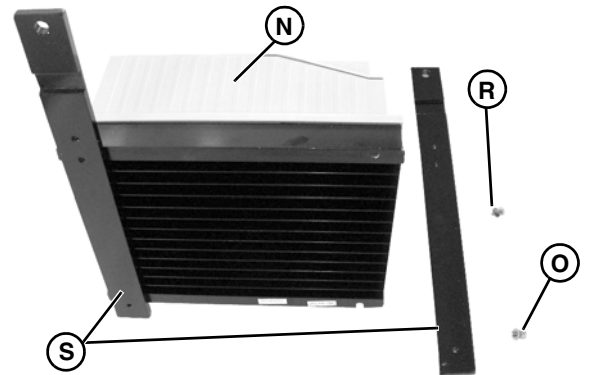

Figure 18
1. Attach mounting bars (Figure 18, item S) to controller (Figure 18, item N) with M5 x 8 mm screws (Figure 18, item O) and M5 washers (Figure 18, item R).